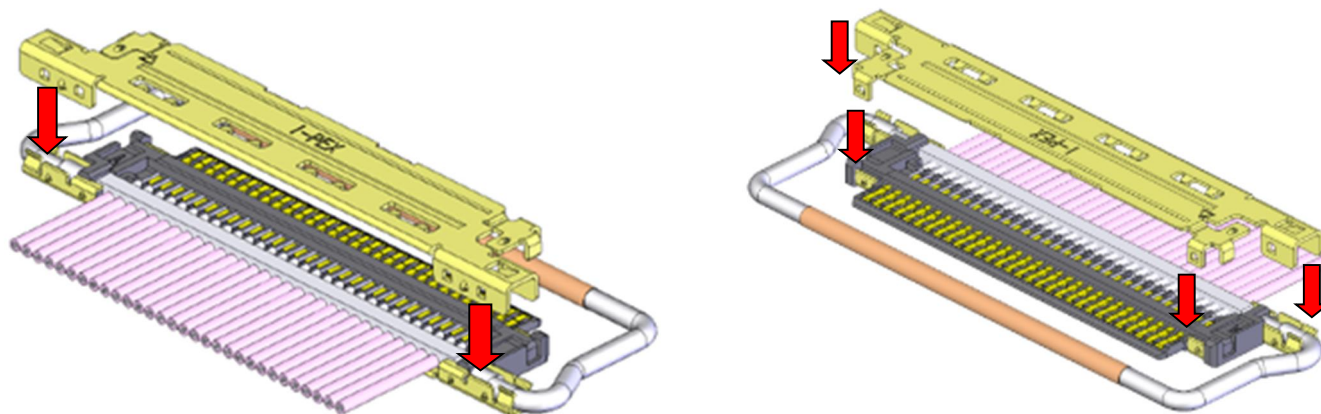

Fig.6 Assembly of Shell-A
①As show in Figure 6, shell-A is assembled from the upper side of housing assembly.